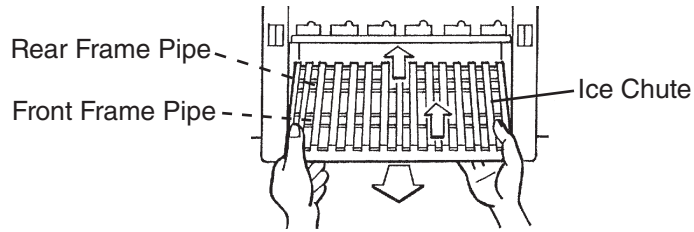

Fig. 40
- 6) Lift off the ice chute from the front frame pipe and then from the rear frame pipe. See Fig. 40.